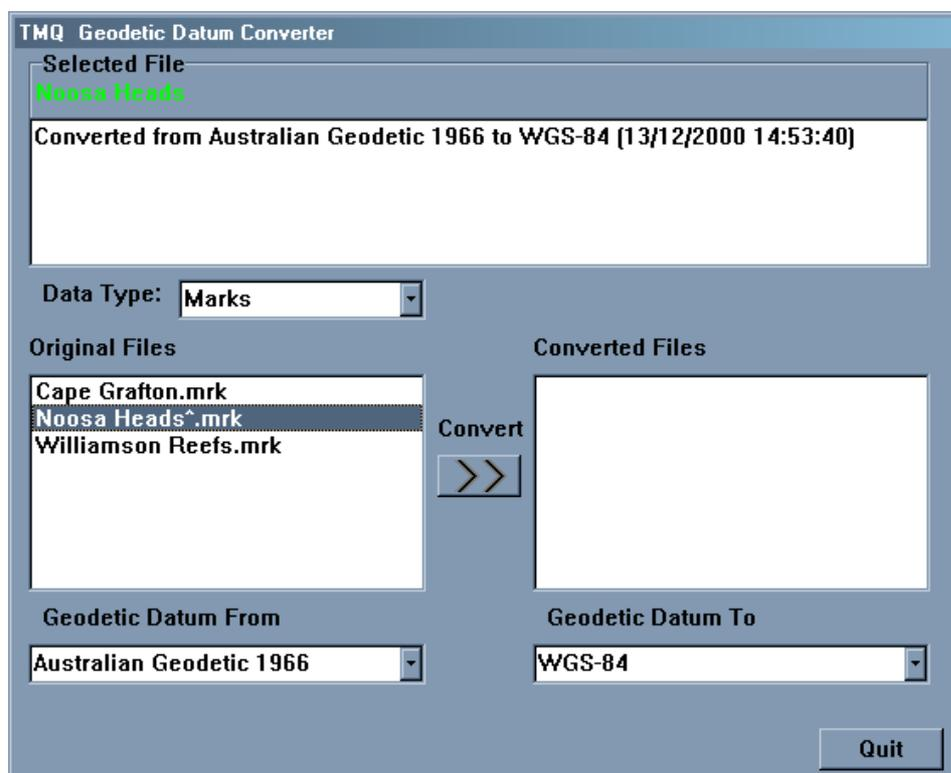

Figure 4.9
*Whenever a file is converted a ‘^’ symbol is appended to the filename. The details of the conversions that have been performed on such a file can be viewed in the ‘Selected File’ section of the converter dialog box, when the file is selected (see figure 4.9).*